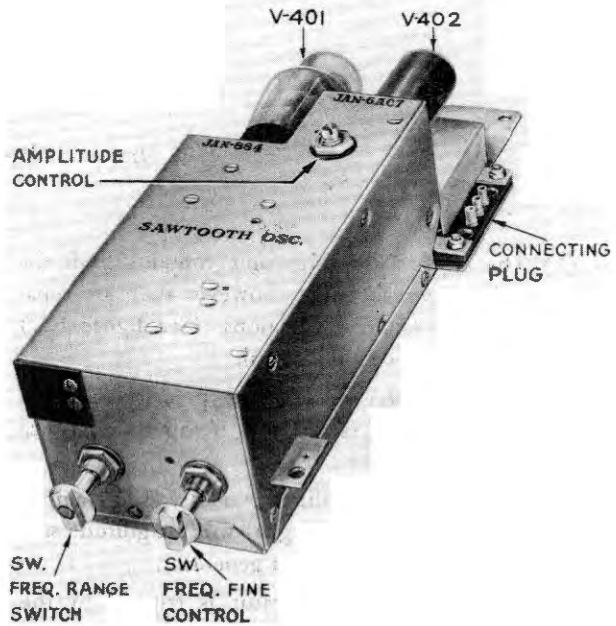

Figure 1-7. Saw-tooth Oscillator—Outside View
(4) The saw-tooth oscillator provides a sweep voltage for the horizontal plates when Indicator ID-59/APA-11 is used as an oscilloscope. Figure 1-7 shows the location of the controls and one connecting plug.